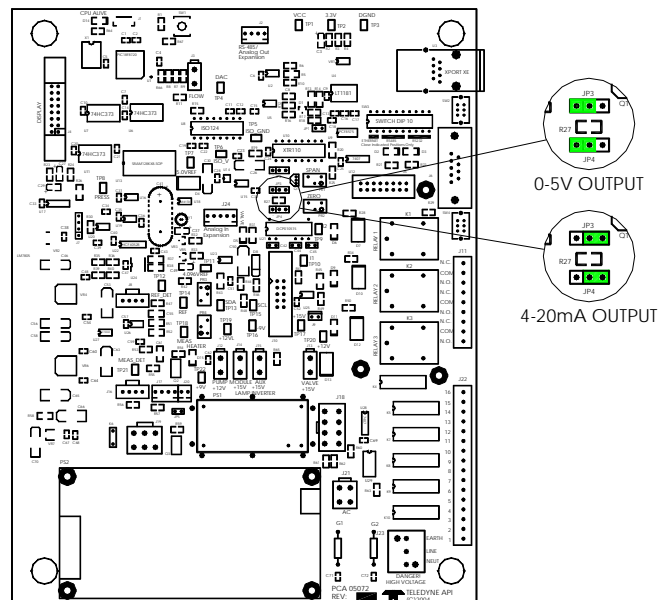

Figure 5-2: Main board – Analog Output Configuration
1. Ensure that the jumpers on the board are set to current. Refer to FIGURE 5-2